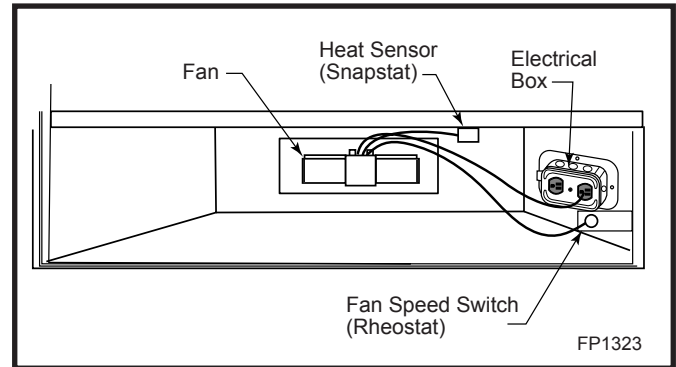

Fig. 33 FK26 fan placement.
1. Place fan assembly at the back of the unit between hearth supports. Attach using velcro strips provided. (Fig. 33)